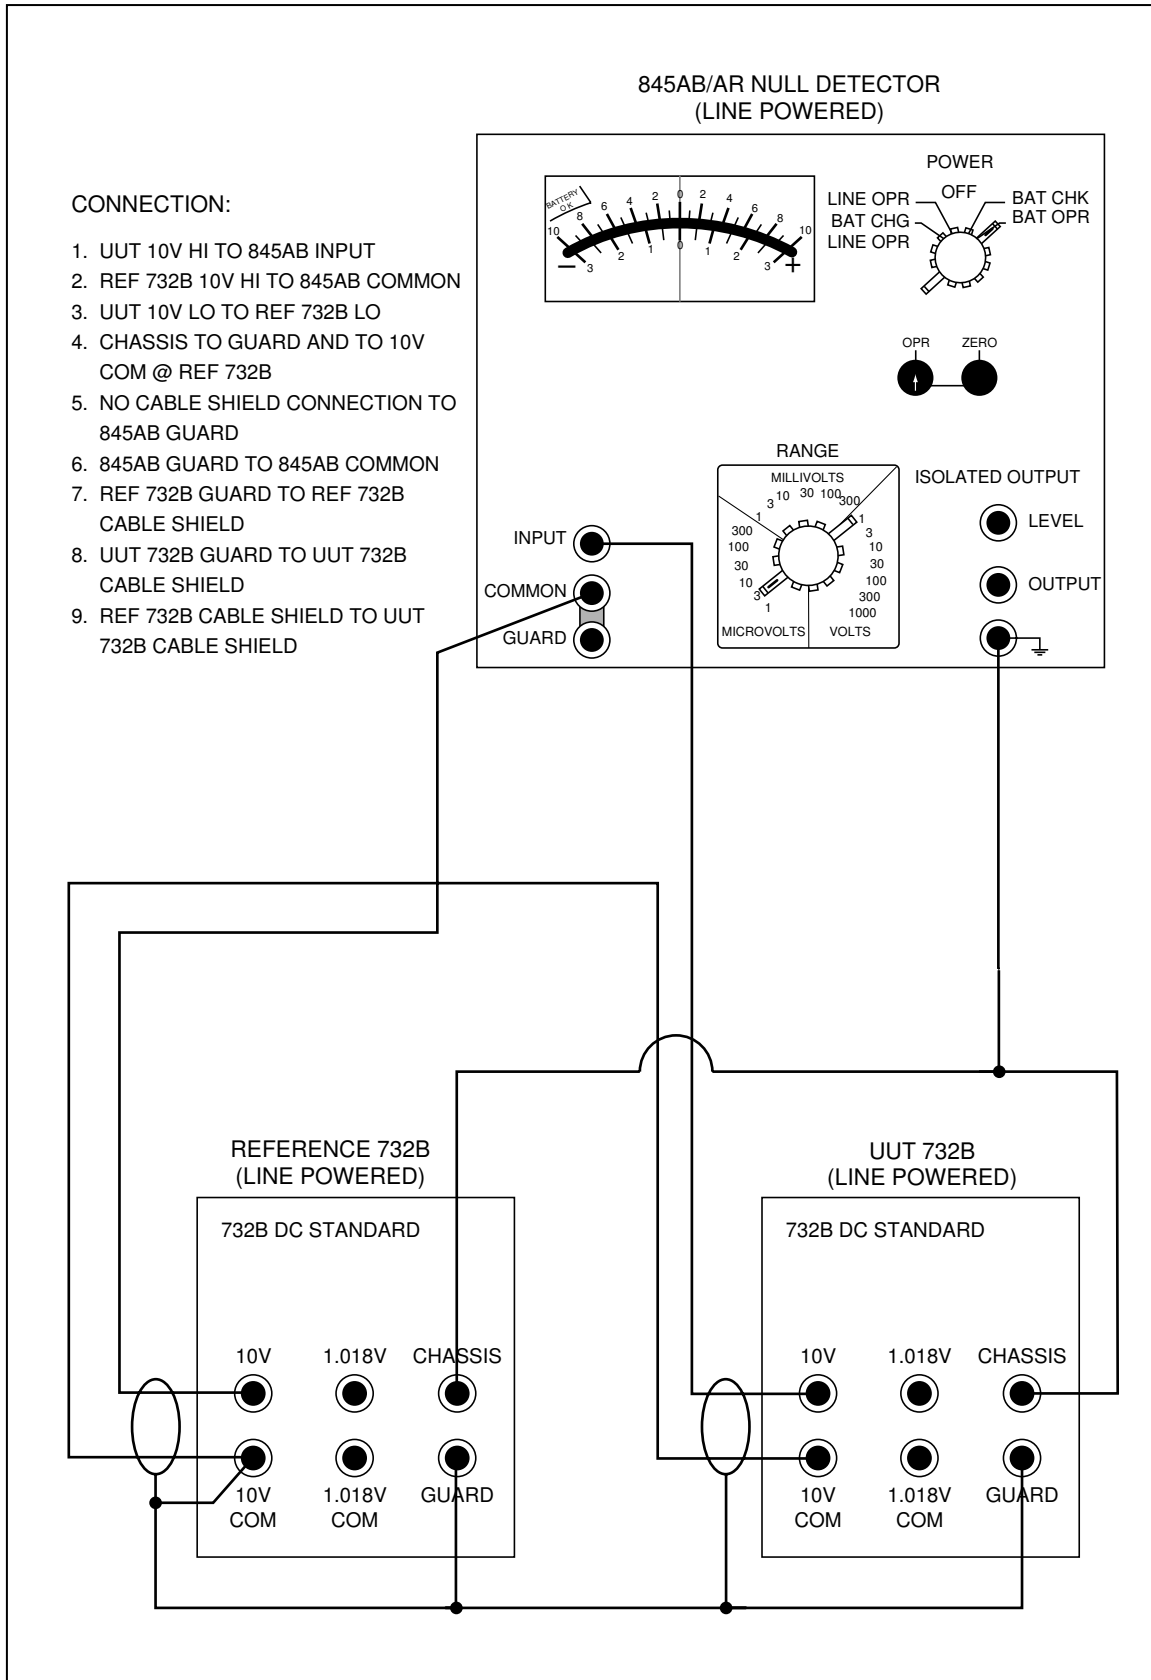

Figure 5-1. 10V Output Calibration Connections
2. Connect the UUT, certified 732B, and null detector as shown in Figure 5-1.
2. Connect the UUT, Certified 732B, and 8506A as shown in Figure 5-1. (Substitute the 8506A for the 854AB shown in the figure.)